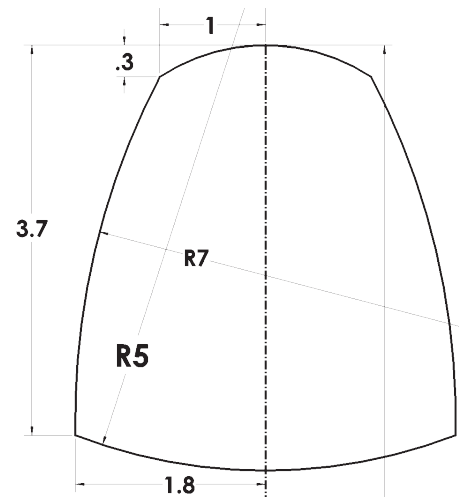

Fig. 10
Step 5. Click **Smart Dimension**  (S) on the Sketch toolbar.
Step 6. Dimension bottom arc **5**, **Fig. 10**.